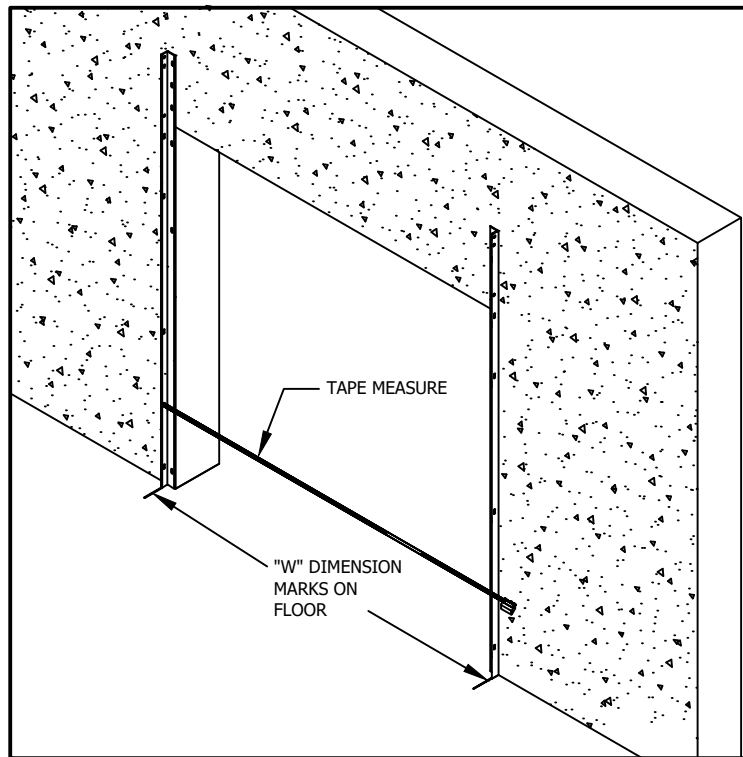

FIGURE 10
- ✓ This is an upward expanding fire door. Guide angles are designed to be set upon the floor unless one angle requires the use of steel shims at the floor level to create level guide elevations as shown in Figure 10.
- Install second wall angle by placing it at the "W" dimension marked on the floor at the second jamb as shown in Figure 10. Shim if necessary.
- d. Use a tape measure while attaching the second wall angle to maintain a consistent "W" dimension all the way to the top as shown in Figure 10.